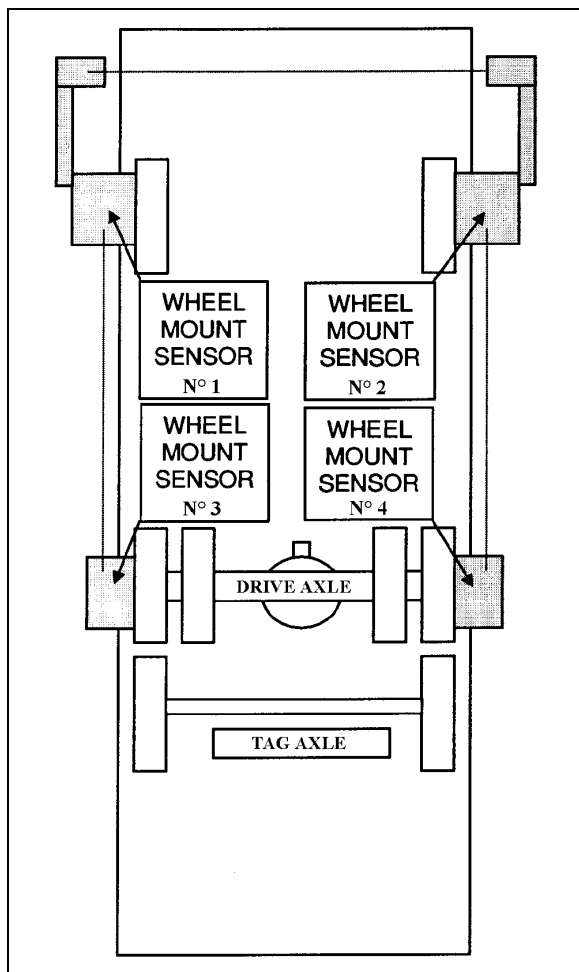

FIGURE 7: FRONT & DRIVE AXLE ALIGNMENT 11025
- With the system installed as in figure 7, adjust drive axle according to specifications' chart below. Use static wheel alignment systems which work with angle measurements only, such as Josam or Hunter systems.
3. Install wheel mount sensors on front end and drive axle wheels (fig. 7).
See reference numbers on wheel mount sensors (fig.7).